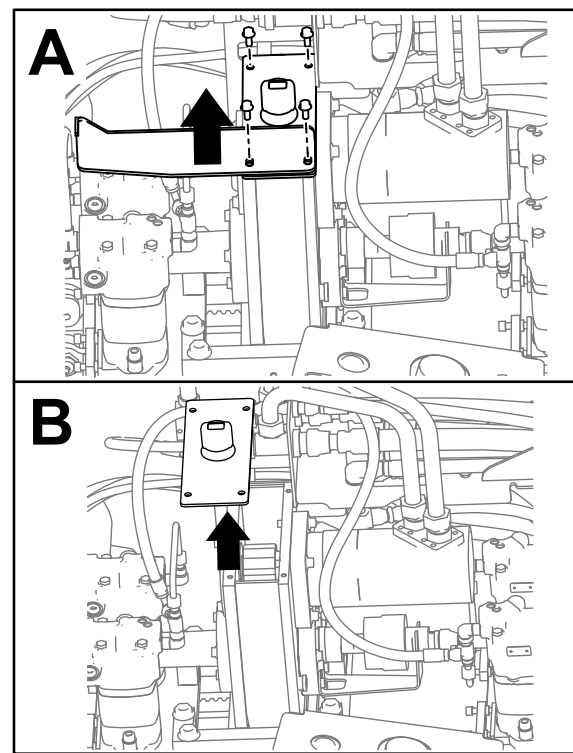

Figure 133
3. Remove the 4 bolts on the guard plate and gearbox (Box A of Figure 133).
4. Remove the guard plate (Box A of Figure 133).
5. Remove the cover on the gearbox and syphon the oil out (Box B of Figure 133).
9. Place the guard back into place and install the 2 bolts (Box A of Figure 133).
10. Install the 2 other bolts securing the lid onto the gearbox (Box A of Figure 133).